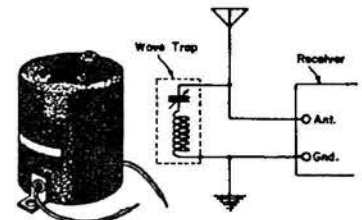
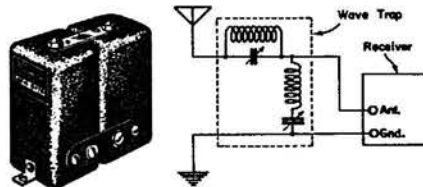

Figure 18
Figure 21 Dual Wave Trap
The cure for such trouble is either to use a first tube which has less tendency to cross modulate, such as a variable Mu remote cutoff tube, or to reduce the amount of interfering signal by any one of the following means: (1) Install an appropriate wave trap such as shown in Fig. 18 over A, tuned to the frequency of the interfering station.
(2) If the primary circuit is resonant near the frequency of the interfering stations, change the resonant frequency by a 100- to 200-mmfd. condenser connected either in series with the antenna or connected between the antenna and ground posts of the receiver (3) Shorten the antenna, if long. (4) If a low-impedance antenna coil is used and the interfering station is at the high-frequency end of the dial, install a new antenna coil with high-impedance primary. (5) Connect a resistance across the antenna and ground terminals of the receiver using a value satisfactory for reducing the effect, usually 1000 to 3000 ohms.
Where "Image" interference is experienced from only one local station, a wave trap can be connected to remove that interference. If, as is sometimes the case, the desired station is an important out-of-town station and the interfering image station is a powerful local transmitter, it may be necessary to employ a double wave trap such as shown in Fig. 21 which gives extreme attenuation to a narrow band of frequencies.
Reception of undesired stations on or near the intermediate frequency is caused by inadequate attenuation to IF ahead of the first detector. Usually, two-gang superheterodynes only are troubled with this type of interference, but occasionally even three-gang receivers will exhibit this type of trouble when close to such interfering stations. The usual remedy is the use of a wave trap of the type shown in Fig. 18 which may be adjusted to the intermediate frequency of the receiver if the interference is weak, or the use of a two section trap similar to the two section image trap illustrated in Fig. 21 if the interference is bad.